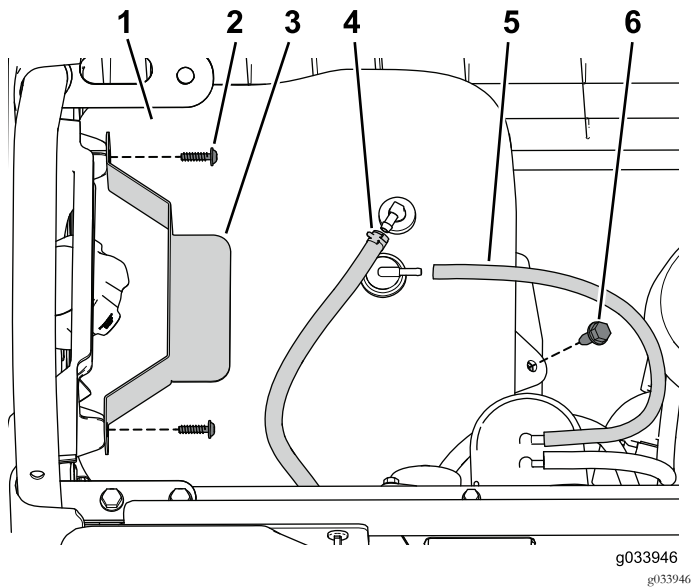

Figure 49
1. Place the fuel tank on the tank tray (Figure 49).
2. Connect the vent tube and fuel line to the tank (Figure 49).
3. Use the screws you remove earlier to secure the hold-down (Figure 49).